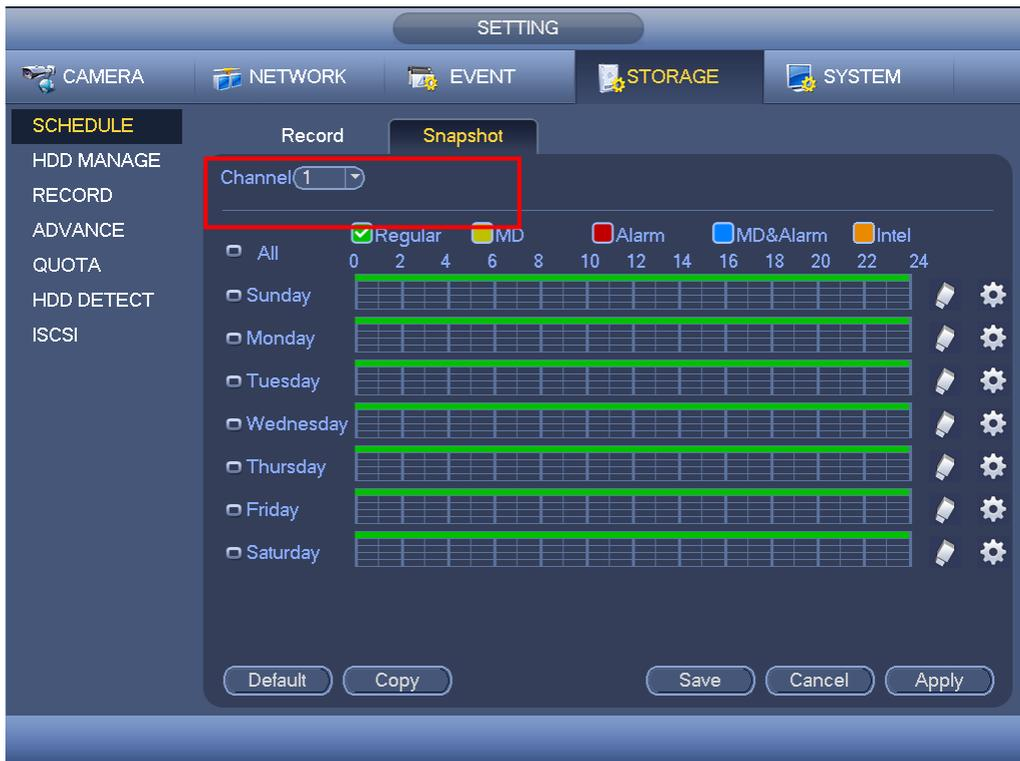

Figure 4-75
- In main menu, from Setting-> Schedule->Snapshot interface, please enable snapshot function. See Figure 4-75.